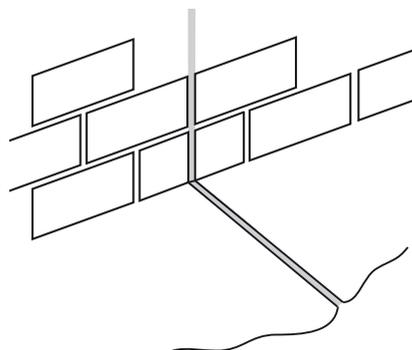

Fig. 6
- Movement joints in concrete floor slabs (see Figure 6).